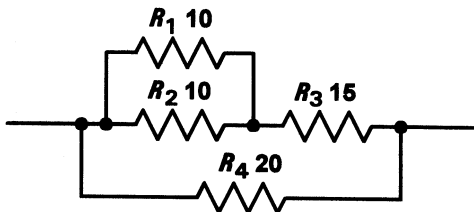

Figure 2.44
- 2.6 Determine the effective resistance of the circuit shown in Fig. 2.44.